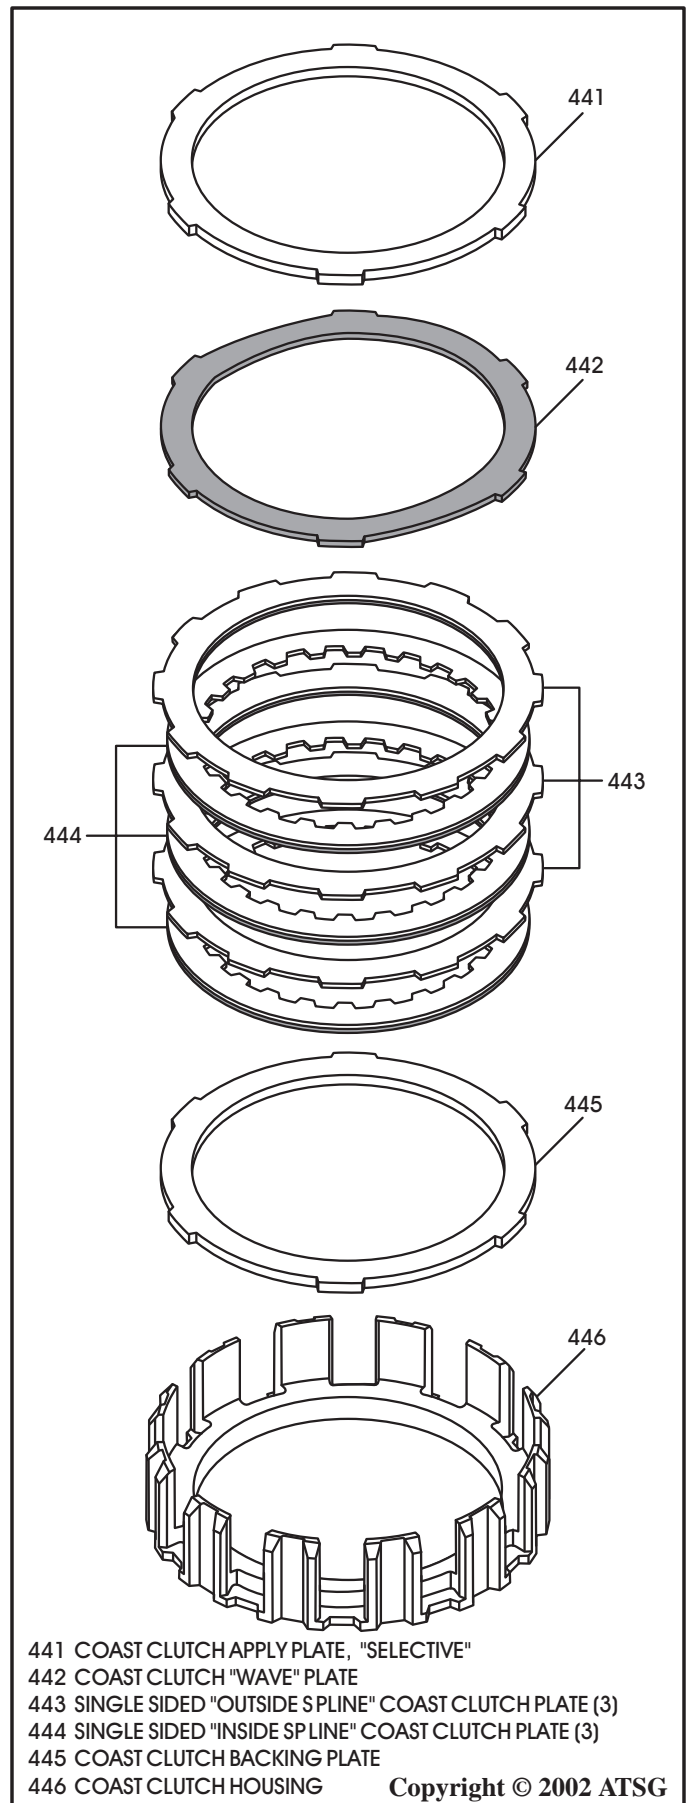

Figure 90
20. Lay the coast clutch housing on a flat surface in the direction shown in Figure 90.
21. Install the coast clutch backing plate into the coast clutch housing, as shown in Figure 90.
22. Install the coast clutch "single sided" plates beginning with an inside spline plate first and alternating with outside spline plates until you have installed 3 of each, as shown in Figure 90.
Note: In this procedure, lined side must be installed facing down, as shown in Figure 90. Clutch plate amounts may vary by model.
23. Install the coast clutch "Wave" plate on top of the last outside spline plate in the coast clutch housing, as shown in Figure 90.
24. Install the "Selective" apply plate on top of the wave plate, as shown in Figure 90.